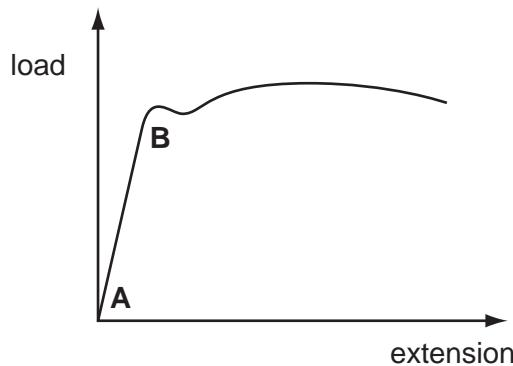

Fig. 3
- 3 Fig. 3 shows a graph of load against extension for a metal.